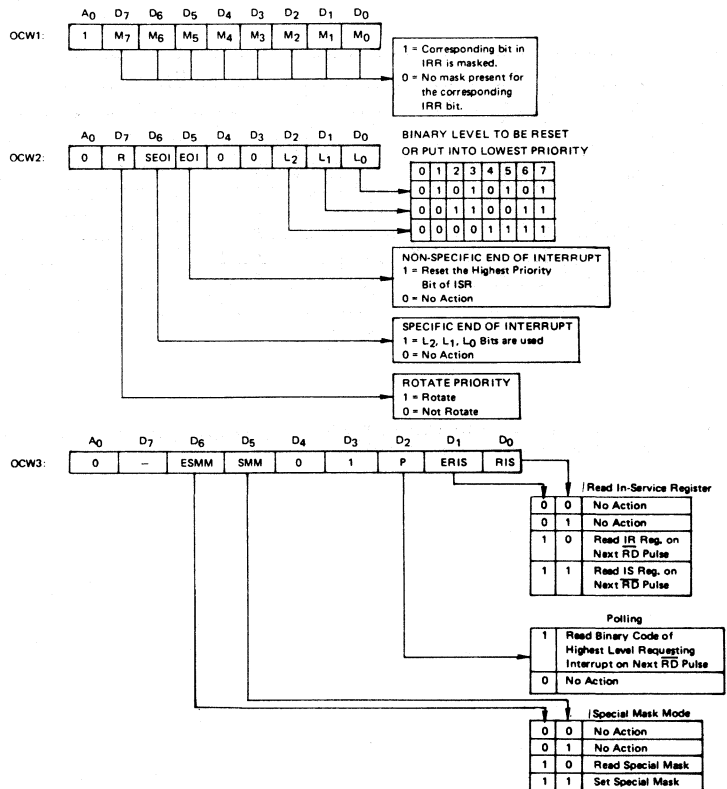

FIGURE 3
② Reference Figure 3
Programming the Auto Rotate Mode through OCW2 assigns priorities 0-7 to the interrupt request input lines. Interrupt line IR0 is set to the highest priority and IR7 to the lowest. Once an interrupt has been serviced it is automatically assigned the lowest priority. That same input must then wait for the devices ahead of it to be serviced before it can be acknowledged again. The Auto Rotate Mode is selected by programming OCW2 in the following way (refer to Figure 3): set Rotate Priority bit "R" to a logic "1"; program EOI to a logic "1" and SEOI to a logic "0." The EOI and SEOI commands are discussed further on. The following is an example of the Auto Rotate Mode with devices requesting interrupts on lines IR2 and IR5.